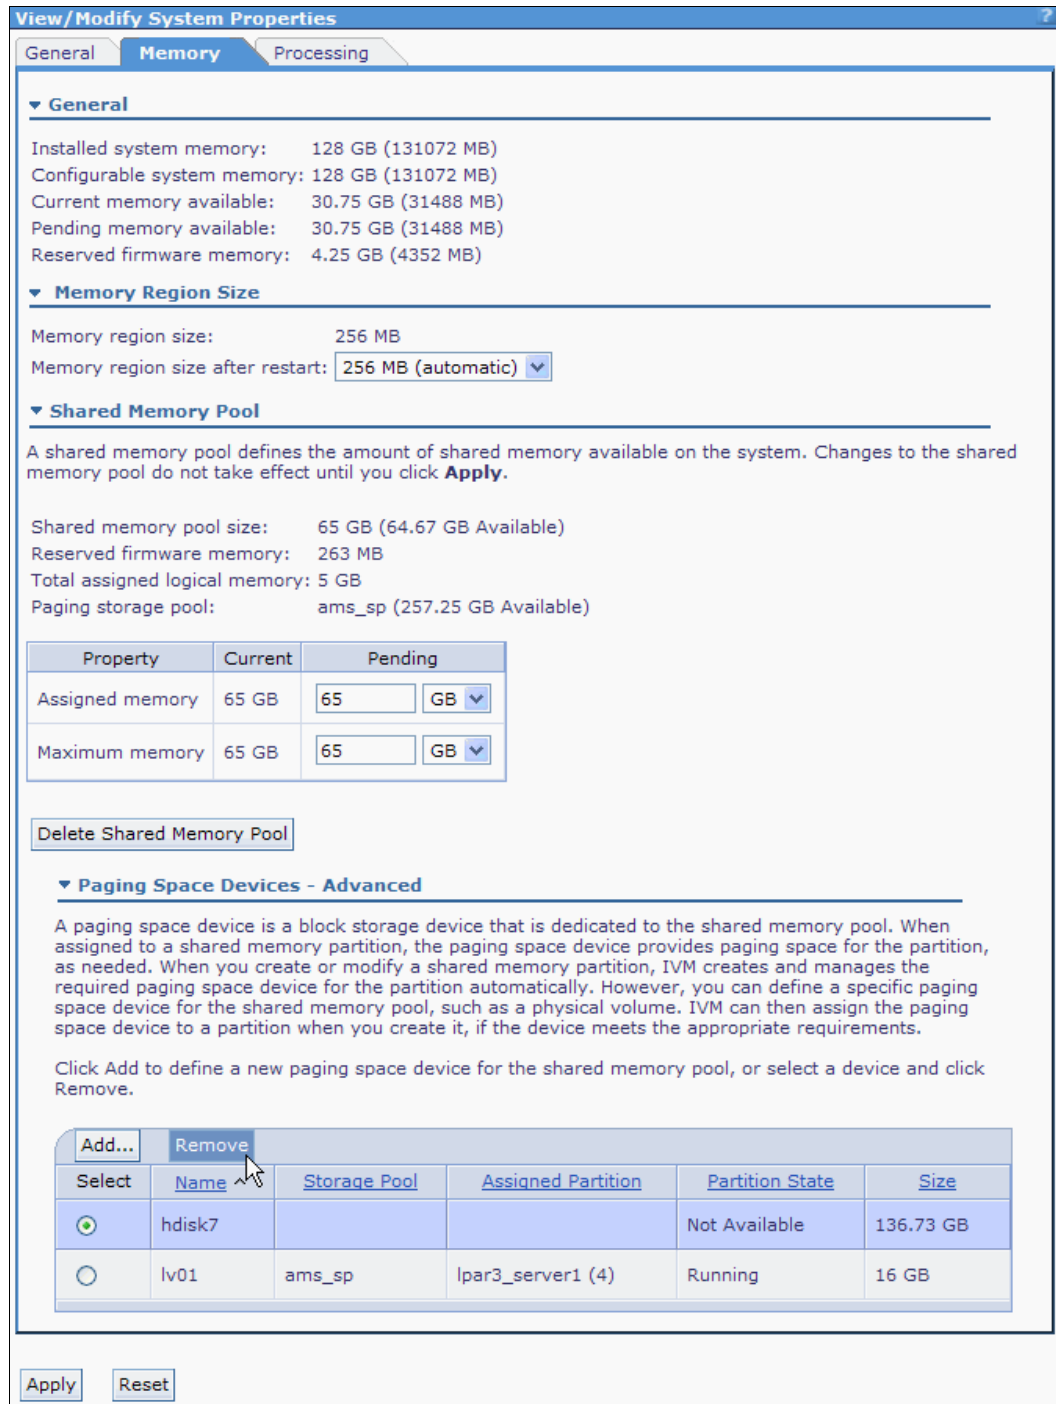

Figure 4-33 Removing paging space devices from the shared memory pool
- In the work area, expand the Paging Space Devices - Advanced menu. Select the wanted paging device that you want to remove. Ensure that the device is not assigned to any partition. Click **Remove** to remove the device from the shared memory pool, as shown in Figure 4-33.